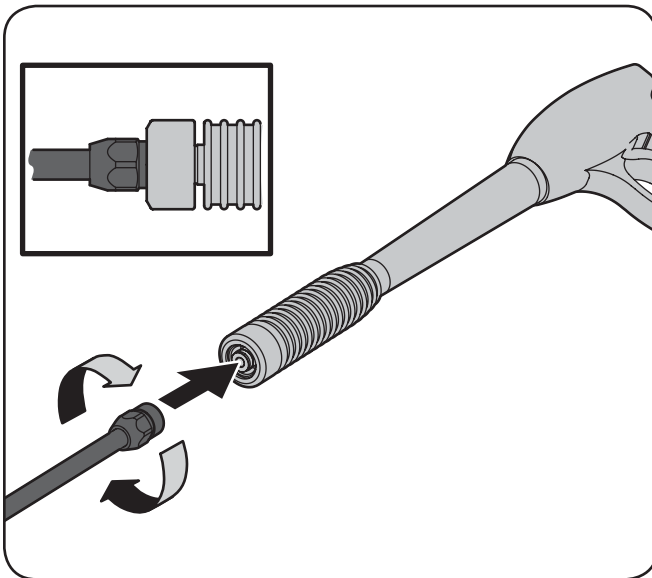

Figure 3-5
- Attach the nozzle extension to spray gun by threading it into the spray gun handle as shown in Figure 3-5. Firmly hand-tighten the two components together.